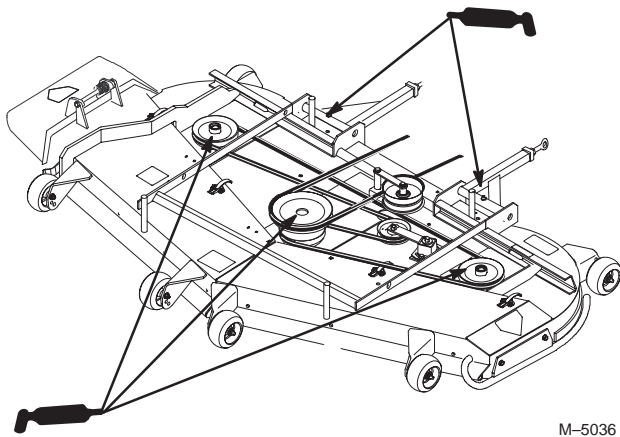

Figure 45
2. Grease the fittings on the three spindle bearings until grease comes out lower seals (Fig. 45).
3. Grease the fittings on the push arms (Fig. 45).